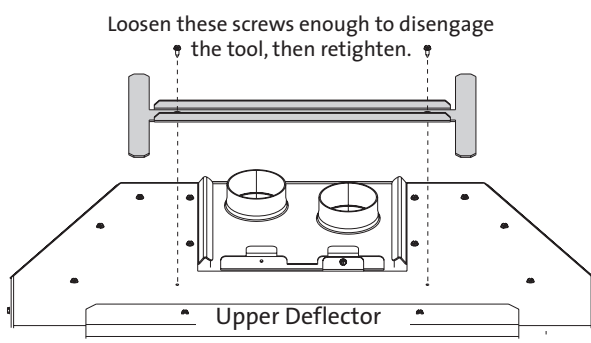

Figure 8. Remove the Flue Collar tool. Also, remove the Upper Deflector if a Cast Iron surround is to be installed.
1. Disengage the Vent Collar tool from the top of the fireplace cabinet by loosening the two retainer screws, then sliding the tool over and up as in fig. 8.